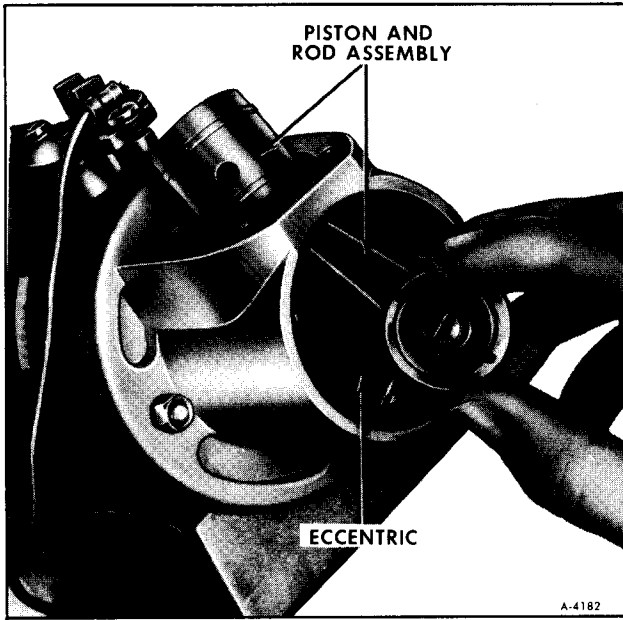

Figure 36—Removing Compressor Piston
5. Rotate eccentric (figure 36) until piston is at the bottom of its stroke.
7. Remove eccentric from motor output shaft, and remove piston assembly through air filter opening as shown in Figure 36.